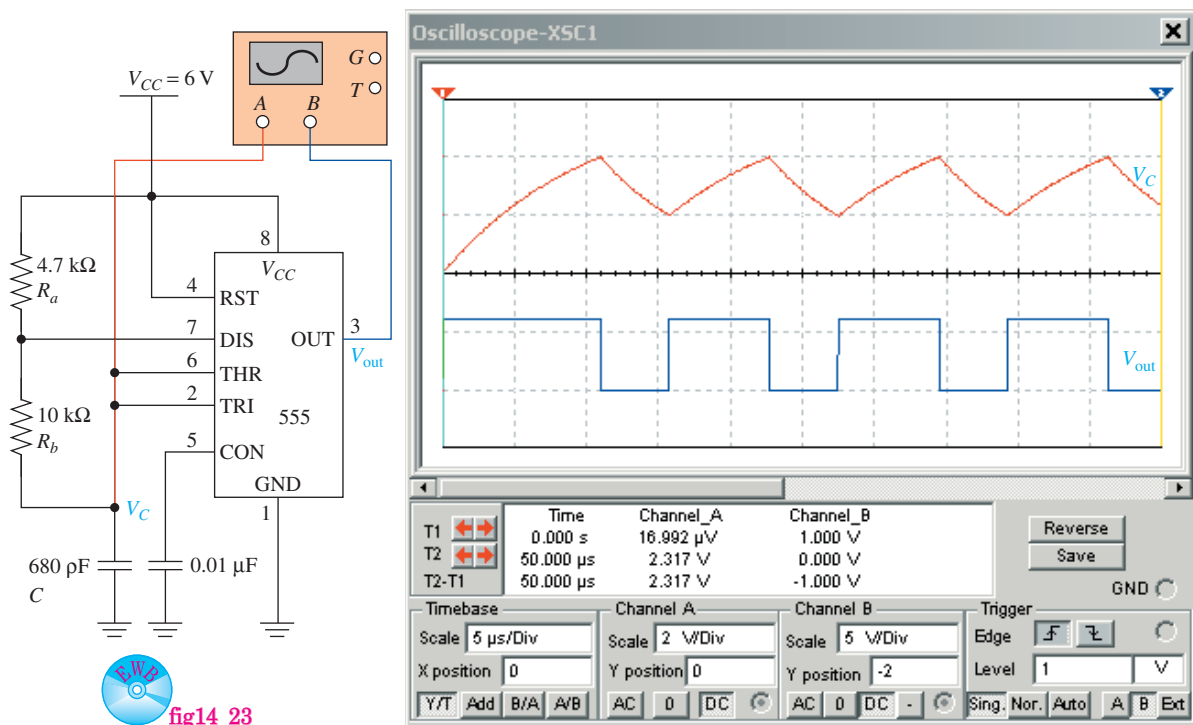

Figure 14–23 Using MultiSIM® to simulate the timing waveforms of a 555 astable multivibrator.
- Load the file *fig14–23* from the textbook companion website. Double-click the oscilloscope to expand its size, and then turn on the power switch. Turn off the power after the single sweep is complete. Drag vertical cursors #1 and #2 to measure T_{LO} and T_{HI} of the V_{out} waveform. Your values should match those shown in Example 14–10.